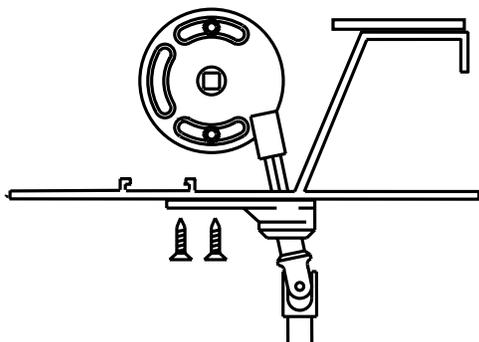

Figure 8
- ② Install the lower roller in the same manner.
- ③ To cover multiple openings, a single headbox may be separated into compartments. Repeat steps one and two for each compartment.
- ④ Insert crank shaft through the L.H. and/or R.H. bottom closure end brackets and into crank gear, then attach cranks to end brackets (see Fig. 8).